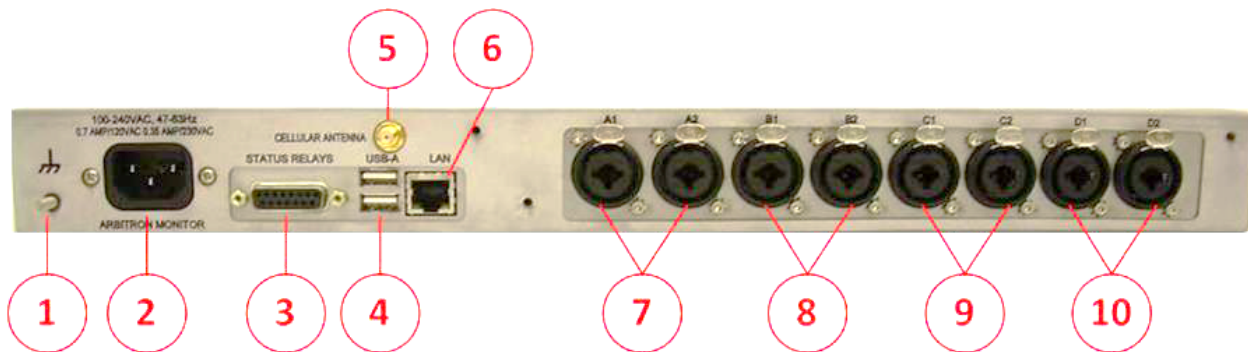

Figure 2: MCEM Monitor Rear Panel
The rear panel is pictured in Figure 2, and the rear panel features are described below:
The MCEM monitor is capable of monitoring up to eight channels of analog audio input. The physical inputs in the rear panel are organized into four *channel pairs*, each comprised of a left and a right channel (Figure 2). The inputs for these channel pairs are labeled on the back panel of the unit as follows:
- b. Connect an RJ-45 Ethernet cable to the rear-panel Ethernet port (item 6 in Figure 2).
- a. Connect an Ethernet crossover cable to the rear-panel Ethernet port (item 6 in Figure 2).
- b. Connect the male plug on a DA-15 cable to the female DA-15 port on the encoder rear panel (item 7 in Figure 2).
- a. Connect a cable to one of the USB 2.0 type A ports on the monitor rear-panel (item 8 in Figure 2). Either use a USB-to-serial cable, or attach a USB-to-serial adapter at one end of the cable.
9. **Optional:** To enable the monitor to communicate with Nielsen via a cellular network, connect the cellular antenna provided with the unit to the cellular antenna port on the rear-panel (item 9 in Figure 2).
10. **Optional:** Connect an electrical ground wire (not provided with the unit) from the ground post (Item 1 in Figure 2) to the rack.
11. Connect the female end of the power cord to the socket labeled Item 2 in Figure 2. Connect the male end of the power cord to a grounded power source. The monitor turns on when the power cord is plugged in. The LCD screen displays text and the LEDs light green.